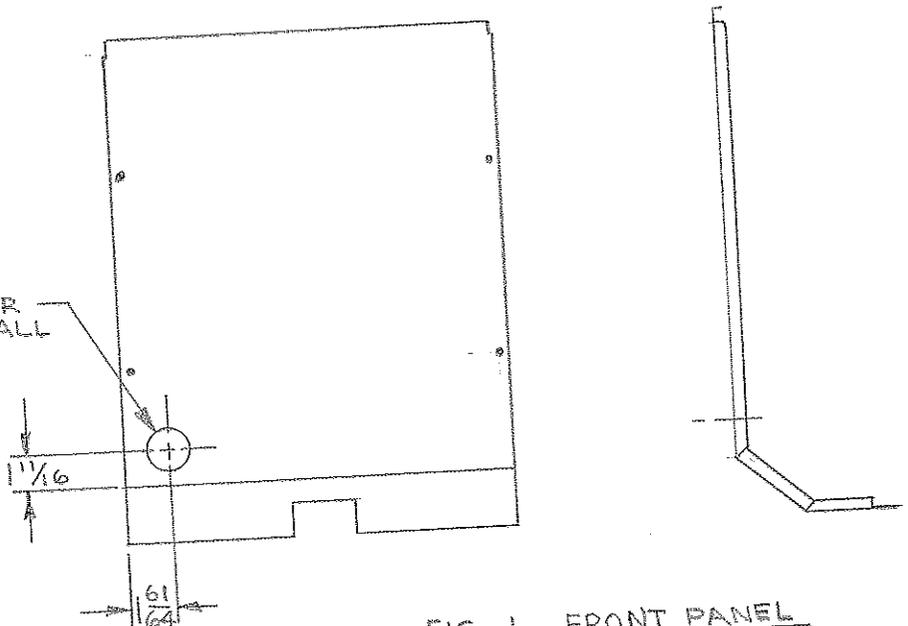

FIG. 1 FRONT PANEL
2. Remove upper front panel and add 2" diameter hole (see Figure 1).
4. Install reworked upper front panel, fasten with old screws, on top two (2) holes, use two (2) 8-32 round head screws supplied on lower two (2) holes, leave screws out 1/4" approximately. This is for hanging lighted display on.
6. Adjust display mounting with two (2) screws unit is hanging on, if desired.